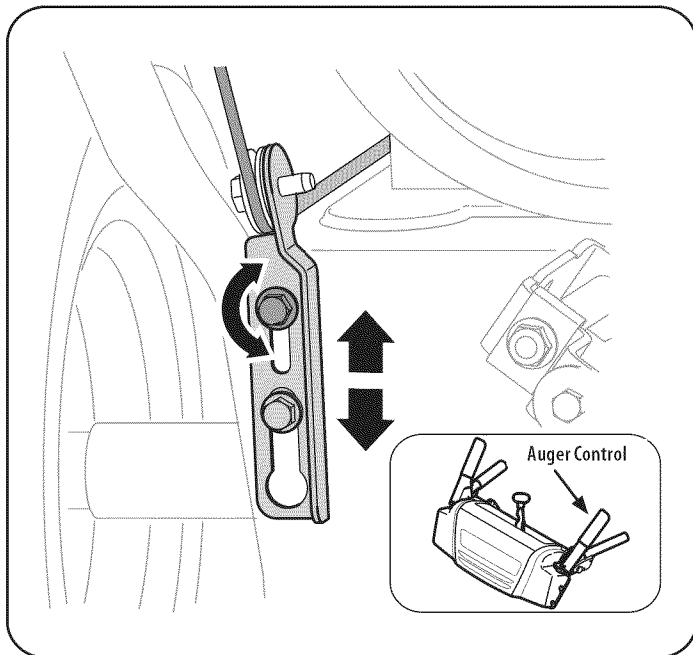

Figure 15
1. The auger control is located on the left handle. See Figure 15 inset. When the auger control is released and in the disengaged "up" position, the cable should have very little slack. It should NOT be tight.
4. Allow the auger to remain engaged for approximately ten (10) seconds before releasing the auger control. Repeat this several times.
6. To readjust the control cable, loosen the upper hex bolt on the auger cable bracket. See Figure 15.